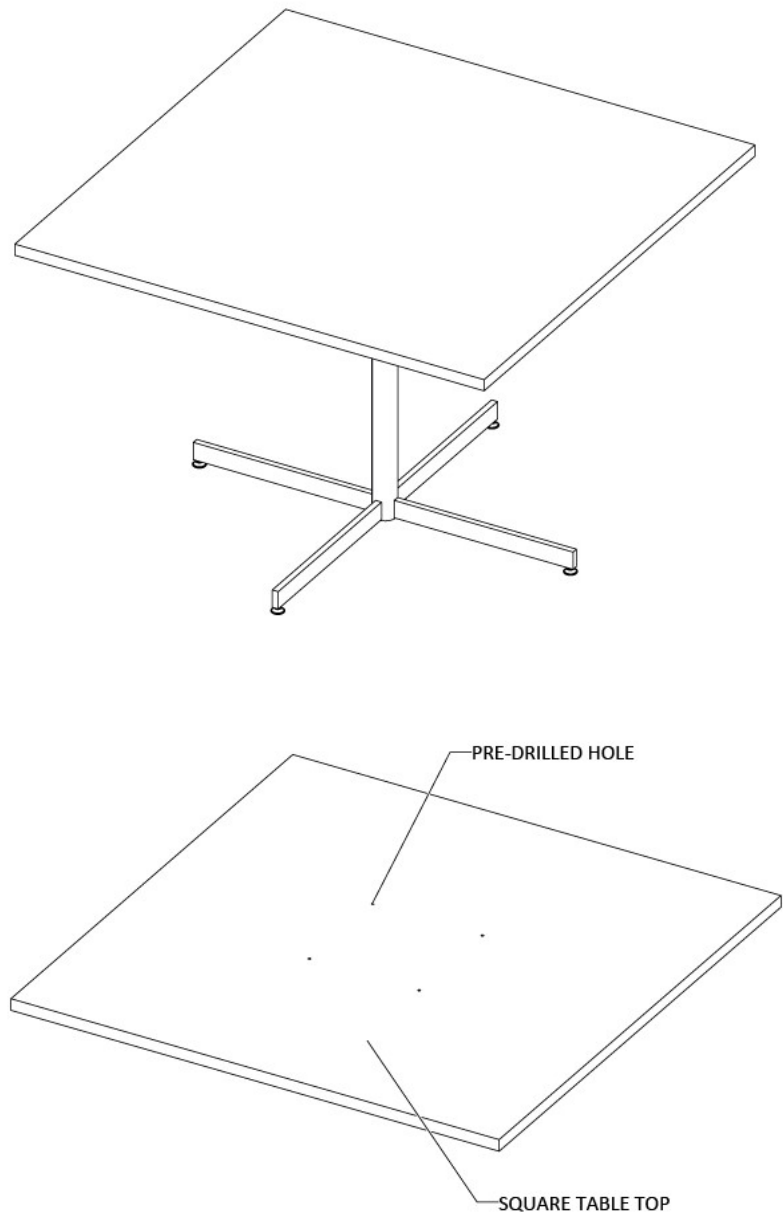

Figure 1
- 1. Place the square table top on a clean solid surface or floor with the underside facing up, (Figure 1).